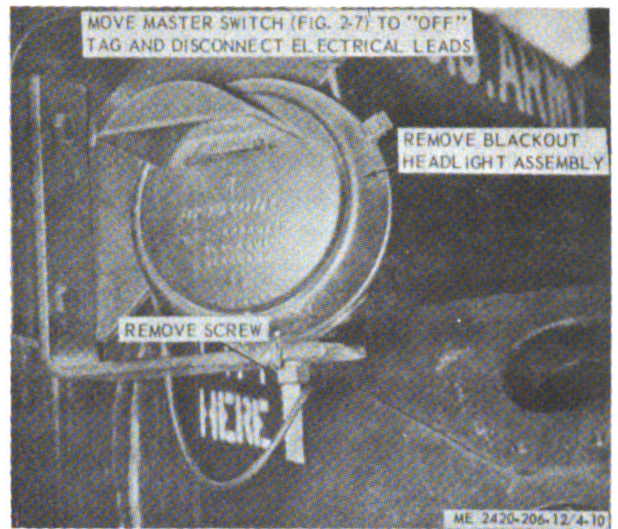

Figure 4-10. Blackout headlight assembly, removal and installation.
a. Removal. Refer to figure 4-10 and remove blackout headlight assembly (para 3-15b).
(1) Clean parts and dry thoroughly.
(2) Inspect for cracks, breaks and other damage. Replace defective blackout headlight assembly as necessary.
c. Installation. Refer to figure 4-10 and install blackout headlight assembly.